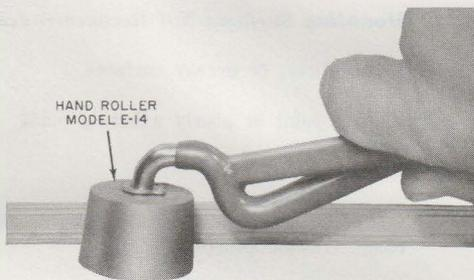

Fig. 2—Applying Roller to Wire Run
- (1) Allow sufficient amount of B Station Wire for connecting to transition or terminal at beginning of run.
- (2) Apply adhesive side of wire to mounting surface and press firmly.
- (3) Continue to dispense wire, applying hand roller (Fig. 2) to adhere wire to mounting surface. Finger pressure is insufficient.